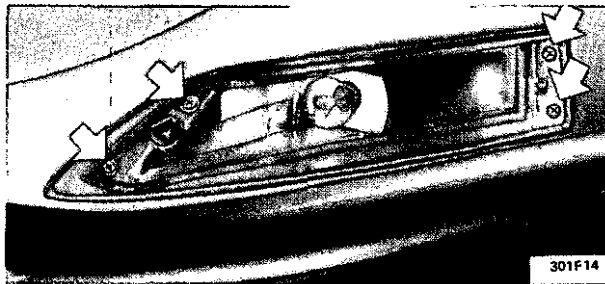

Figure 1F-14 Removal Front Directional Lamp Lens
3. Disconnect electrical wires. See Figure 1F-14.